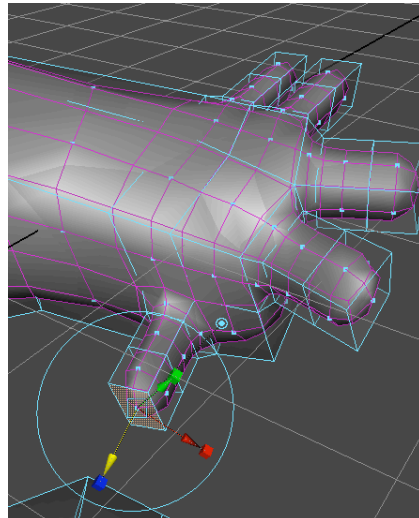

Figure 47: the fifth toe is extruded from one of the inside faces.
8. The fifth toe is created by extruding the lower inside face of the foot (The same number of times as the other 4 toes), as shown in figure 47. To see a version of